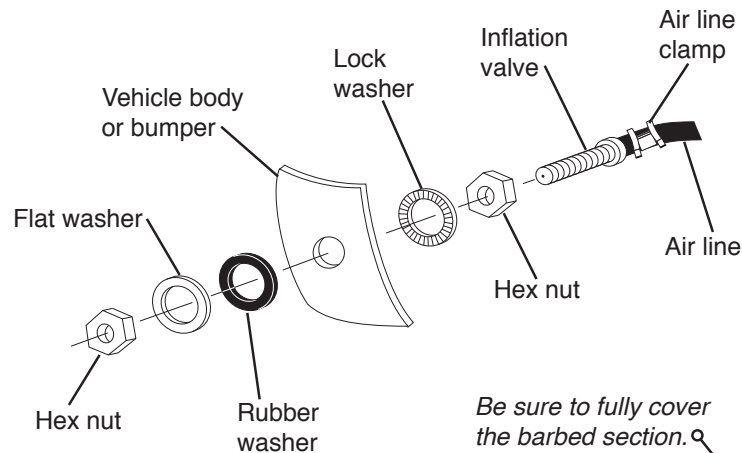

Fig. 8
- Drill a 5/16" (8mm) hole for the inflation valve and mount as shown (Fig. 8). The rubber washer serves as an outside weather seal.
7. Drill 5/16" (8mm) hole for inflating valves and mount as illustrated. Rubber washer is for outside weather seal (see Fig. 8).